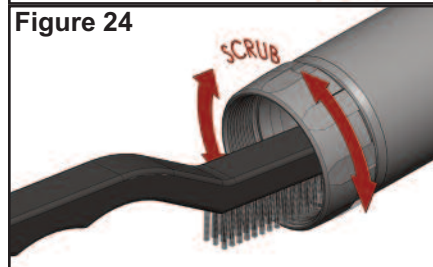

Figure 24
3. Using a gun cleaning brush and solvent, thoroughly scrub the threaded socket and taper in the rear of the silencer. See Figure 24.